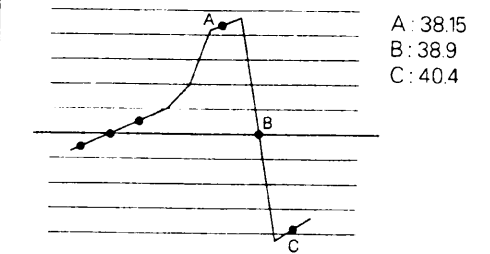

Fig 3.
- Adjust IF AFT coil (VL101) so that 38.9 MHz (Vc) point will be centre as in fig. 3